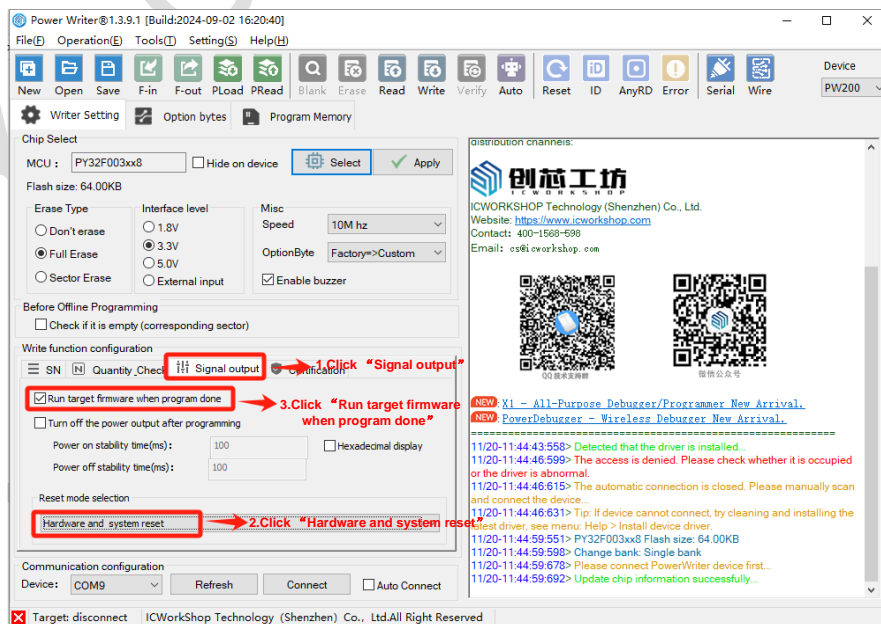

Figure 5-3 Power Write Operation Tick 'Reboot Chip After Programming'
- When configuring the Option of the programmer, you need to check the "Smart Reset" function or "Restart the chip after programming" (programmers typically have similar options that need to be selected). The specific steps are shown in Figures 5-3, Figure 5-4.